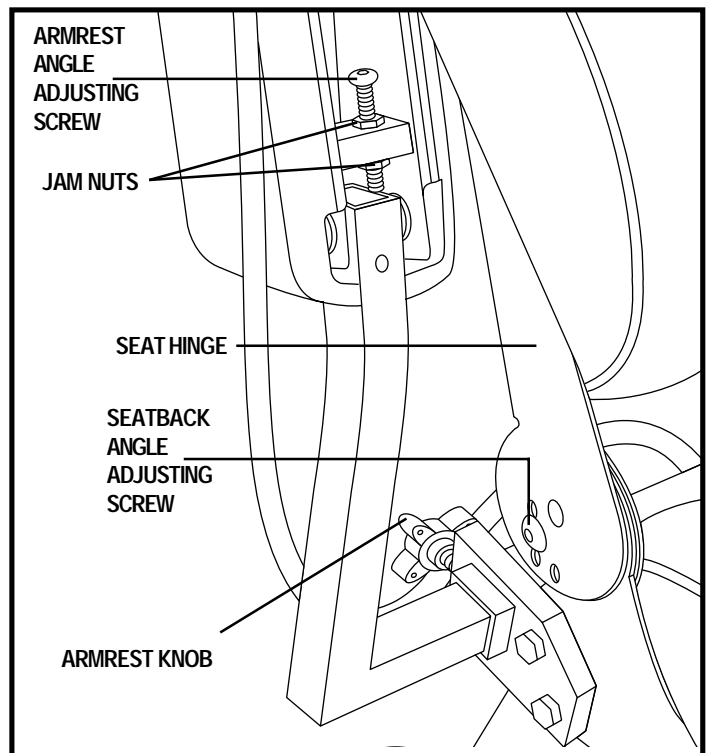

Figure 18. Seatback Angle Adjustment
1. Remove the seatback angle adjusting screw from each seat hinge. See figure 18.
1. Locate the armrest knob on each side of the armrest receiver bracket. See figure 18.
1. Lift the armrest straight up so that it is perpendicular to the floor. See figure 18.